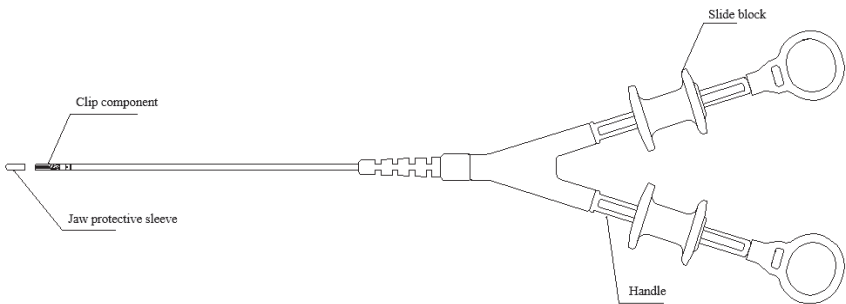

Fig 2 Remove the jaw protective sleeve
- A. Remove the jaw protective sleeve of the front end of Disposable Dual Action Tissue Closure Device (as shown in Fig 2), control the two handles with two hands respectively, pull the slide block to the handle ring position and maintain the appropriate tension until the clip is completely closed.